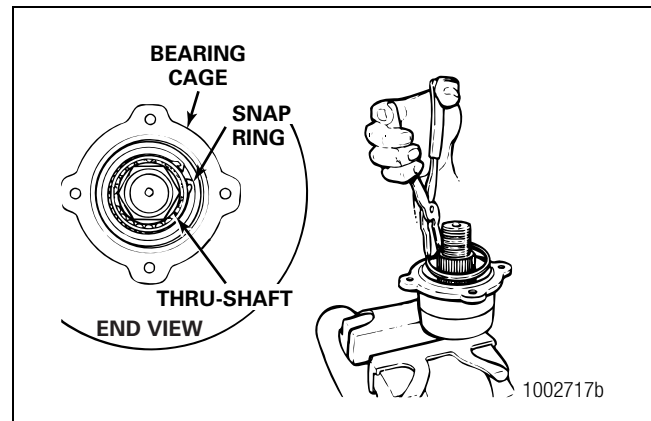

Figure 5.91
5. Install the snap ring that fastens the outer cup in the cage. The snap ring controls the end play of the output bearing. Figure 5.91.